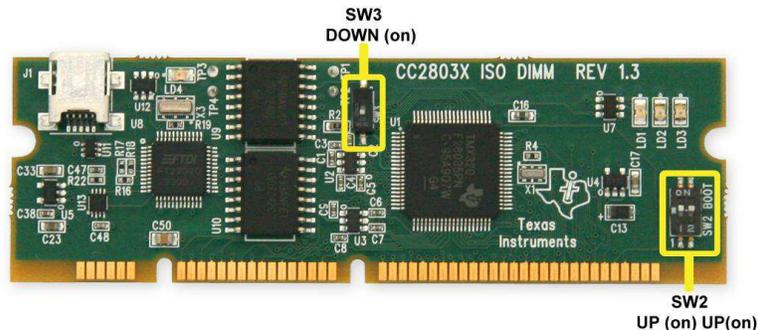

Figure 3. DIP Switch Settings
1. Unpack the DIMM-style controlCARD and verify that the DIP switch settings match those shown in Figure 3